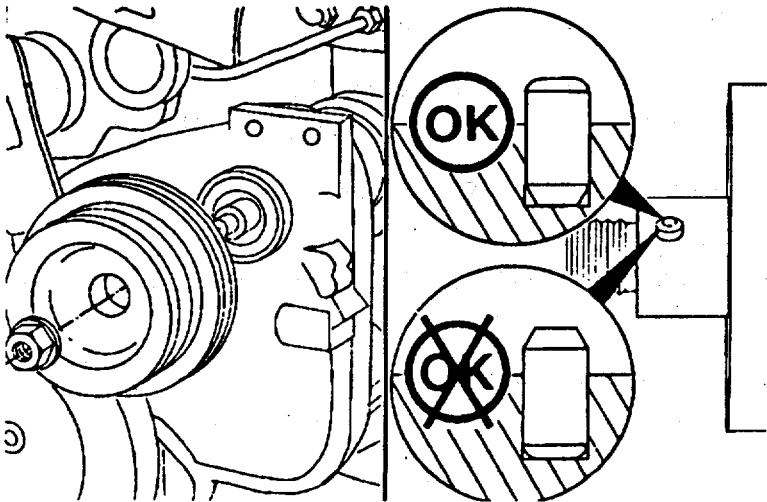

FIGURE 3-49. Checking Dowel Pin.
If the accessory drive dowel pin has been incorrectly installed, the dowel pin must be removed before attempting to remove the gear cover to prevent damage to the accessory drive bushing (FIGURE 3-49).
- m. Relieve tension on the hoist to set the housing (2) on the engine supports (1). Install the support capscrews (4) and lockwashers (3). Tighten the capscrews to 50 ft-lb torque.
- p. Install the dowel pin in the accessory drive shaft (if removed) (FIGURE 3-49).